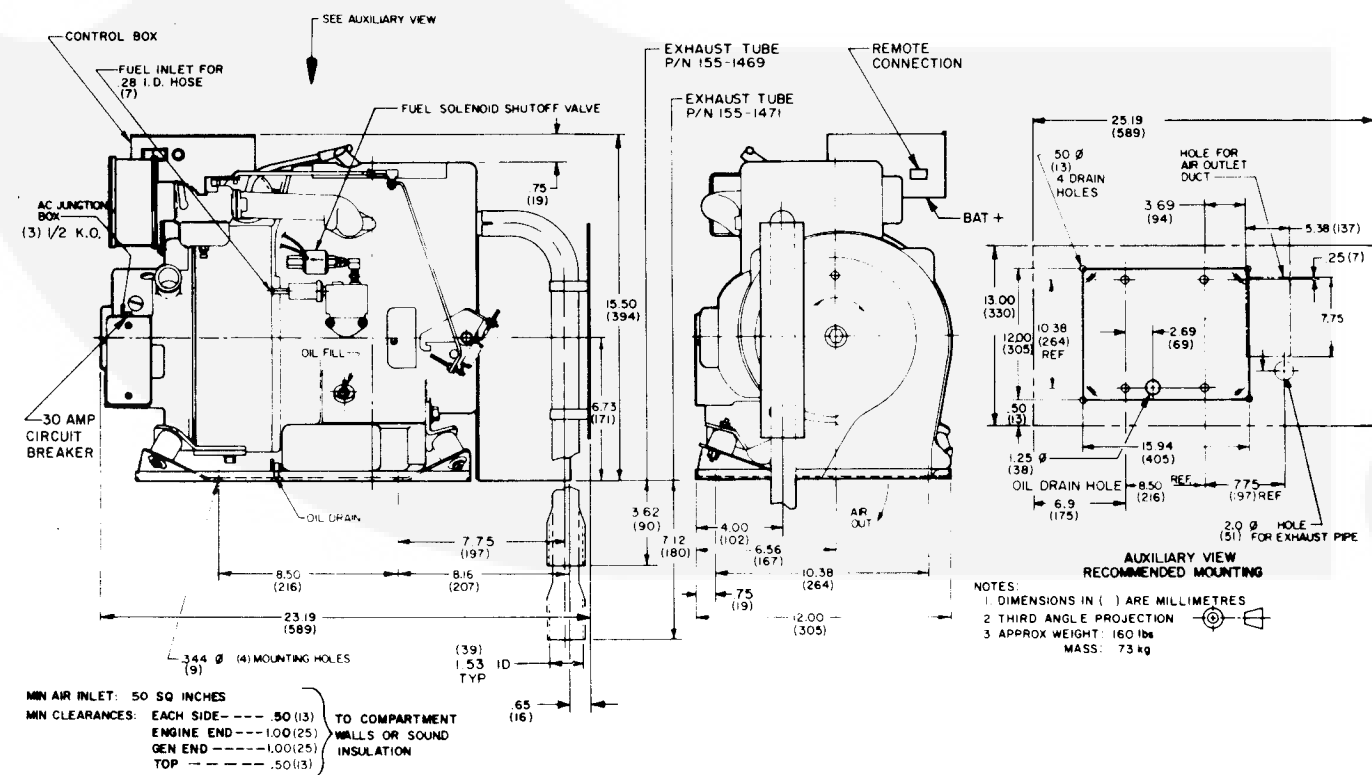

FIGURE 1. INSTALLATION OUTLINE
**WARNING** Insulation must not reduce the minimum clearances as specified in Figure 1 to meet ANSI 198.1 AND CSA #946 temperature rise requirements for recreational vehicles.